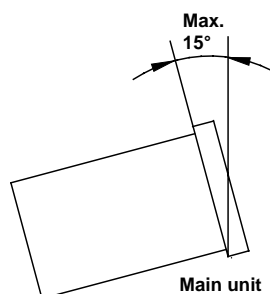

Figure 1
- The player will work normally when the main unit is mounted with the front panel at within 15 degrees of the vertical plane. If the unit is tilted excessively, discs may not be loaded or unloaded properly. (Figure 1)